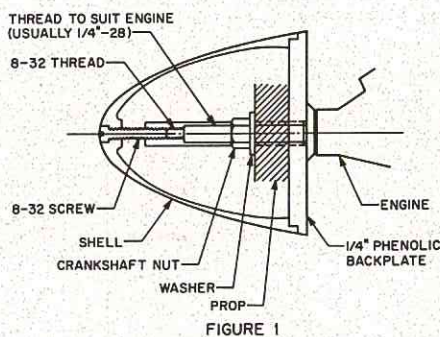

FIGURE 1
a) Make an accurate engineering drawing of the entire spinner, including back plate and fastening-screw. As already noted, take care to get the shape right! Fig. 1 shows a typical layout.